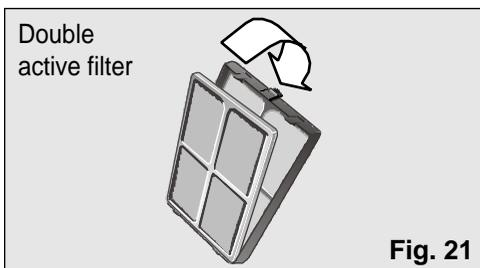

Fig. 21
A double active filter is also fitted inside the basic filter on these models, **Fig. 21**.
- Change the double active filter inside the basic filter for a new one as shown in **Fig. 21**.